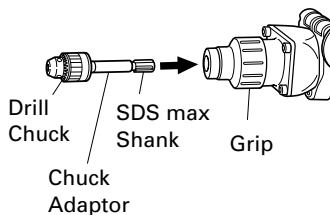

Fig. 14
(2) Attaching chuck adaptor to drill chuck (Fig. 14)